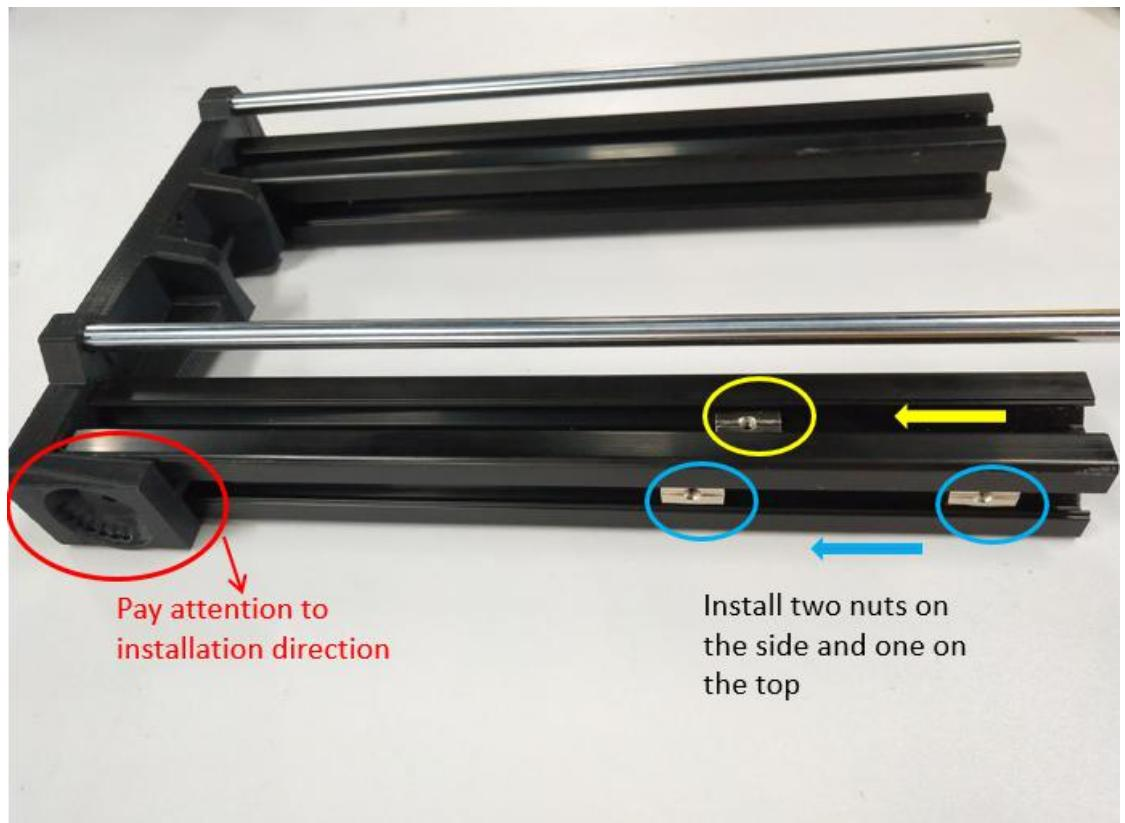

Figure 1.8.4
**Steps 1-8-3:** Then install the three profile nuts into the profile grooves as shown in Figure 1.8.4.